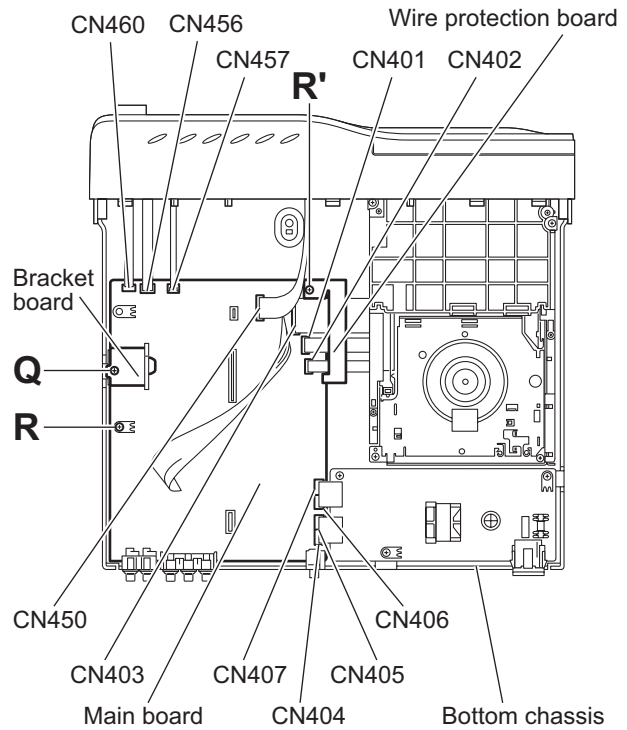

Fig.11
3.1.8 Removing the main board (See Fig. 11)